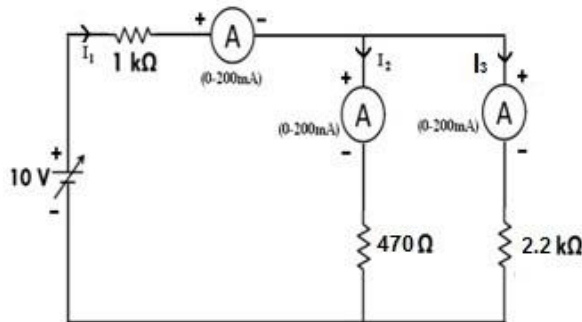

FIG. 2.3 CIRCUIT FOR VERIFICATION OF KCL
1. Implement the circuit as per circuit diagram shown in Fig.2.3